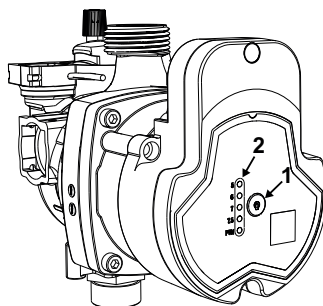

fig. 17
the circulating pump has a **central button** (ref. 1 - fig. 17) for selecting the operating head. If the circulating pump is controlled by a modulating signal (as in this BlueHelix THETA 24 C model), the button is disabled and head adjustment is automatically controlled by the PCB.
There are some **LEDs** (ref. 2 - fig. 17) which indicate the circulating pump operating mode. Otherwise, in case of a fault, these **LEDs** provide diagnostics of the possible cause, based on the number of flashes.